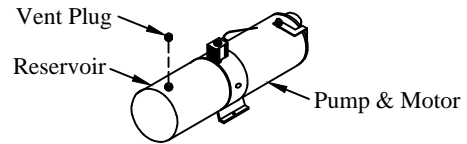

Figure 17: Vent plug.
- (1) Lower mounting kit
7. **Install** the vent plug provided into the pump reservoir (Figure 17).